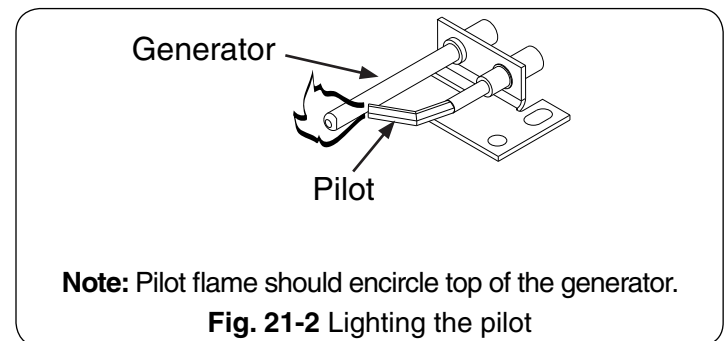

Fig. 21-2 Lighting the pilot
- a. The pilot flame should encircle the generator tip, and is preset at the factory (Fig. 21-2).